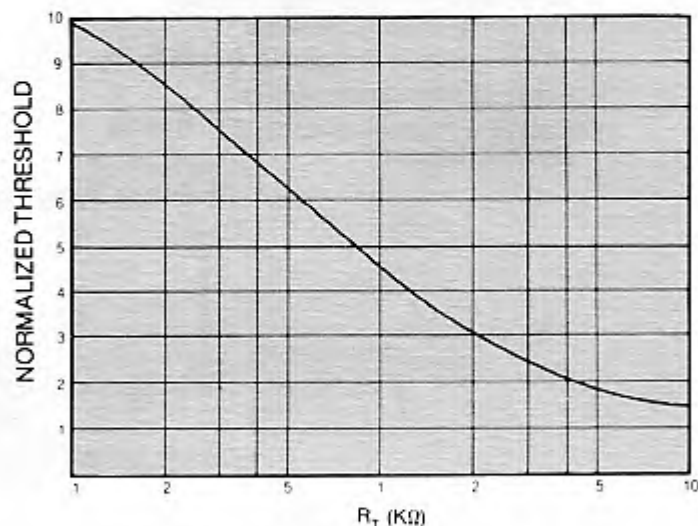

Figure 1 — Threshold vs. R_T
THRESHOLD: Model A-111 has a nominal threshold referred to the input of 8×10^{-15} coulomb. This is equivalent to 5×10^4 electrons. The threshold can be increased by the addition of a resistor between Pins 7 and 8. Shorting these Pins together produces the maximum increase (approximately 10X). See Figure 1.
2) Pin 7 provides a positive analog pulse output from the preamplifier section just prior to the discriminator with a rise time of about 100ns. See photo above. At maximum sensitivity (no feedback resistor between Pins 7 and 8) the amplitude of this pulse is proportional to the input charge, $A = 2.5$ V/pC. At threshold this will correspond to a 20 mV pulse. If a feedback resistor is used between Pins 7 and 8, the size of the analog pulse will be divided by the same threshold attenuation factor the feedback resistor produced (Figure 1.) Example: If a 3k Ω feedback resistor is used, the size of the analog pulse will be 1 V/pC. This output must be capacitively coupled to external circuitry and can be used to perform pulse height analysis. Near threshold, however, the shape of the analog pulse will be effected by the firing of the discriminator.
The A-111 will respond to a negative pulse of 8×10^{-15} coulombs or greater. The threshold may be increased by the connection of a resistor between Pins 7 & 8. Approximate values are given in Figure 1.